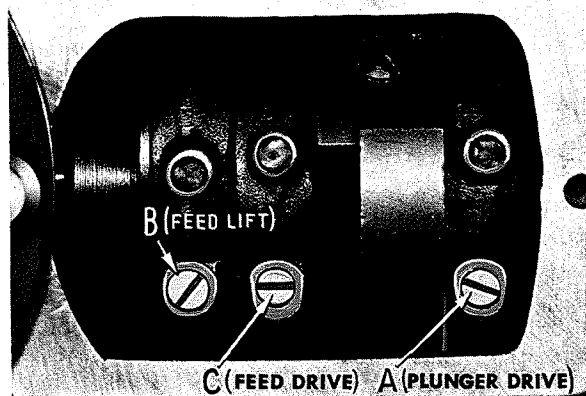

Fig. 3
Oil clearance for the connecting rods is set at the factory. Due to normal wear it may be necessary to remove any excessive play or shake that may develop. Access to connecting rod adjusting screws is through opening in top of arm (Fig. 3). Swing the arm cover plate out of position for access to adjusting screws. Tighten screw (A) in plunger drive connecting rod until machine begins to bind while handwheel is being turned in operating direction, which is away from operator. Then, loosen screw until the machine again turns freely. Repeat the same procedure for feed elevating connecting rod and feed driving connecting rod screws (B) and (C) respectively. Swing